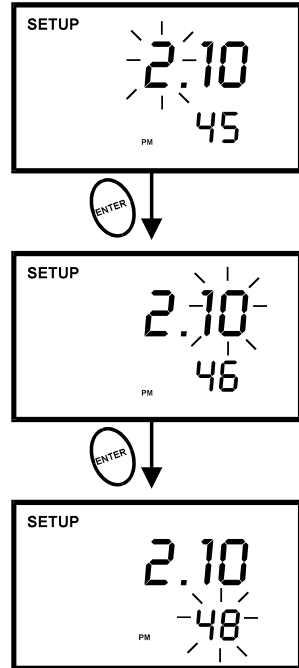

Figure 34 - Selecting hour, minutes and seconds
11. Press the **ENTER** key to confirm the date and move to “hour” selection. The “hour” digits will flash. See Figure 34 (next page).
15. Press the **ENTER** key to confirm the minutes and move to “second” digits will flash. See Figure 34.